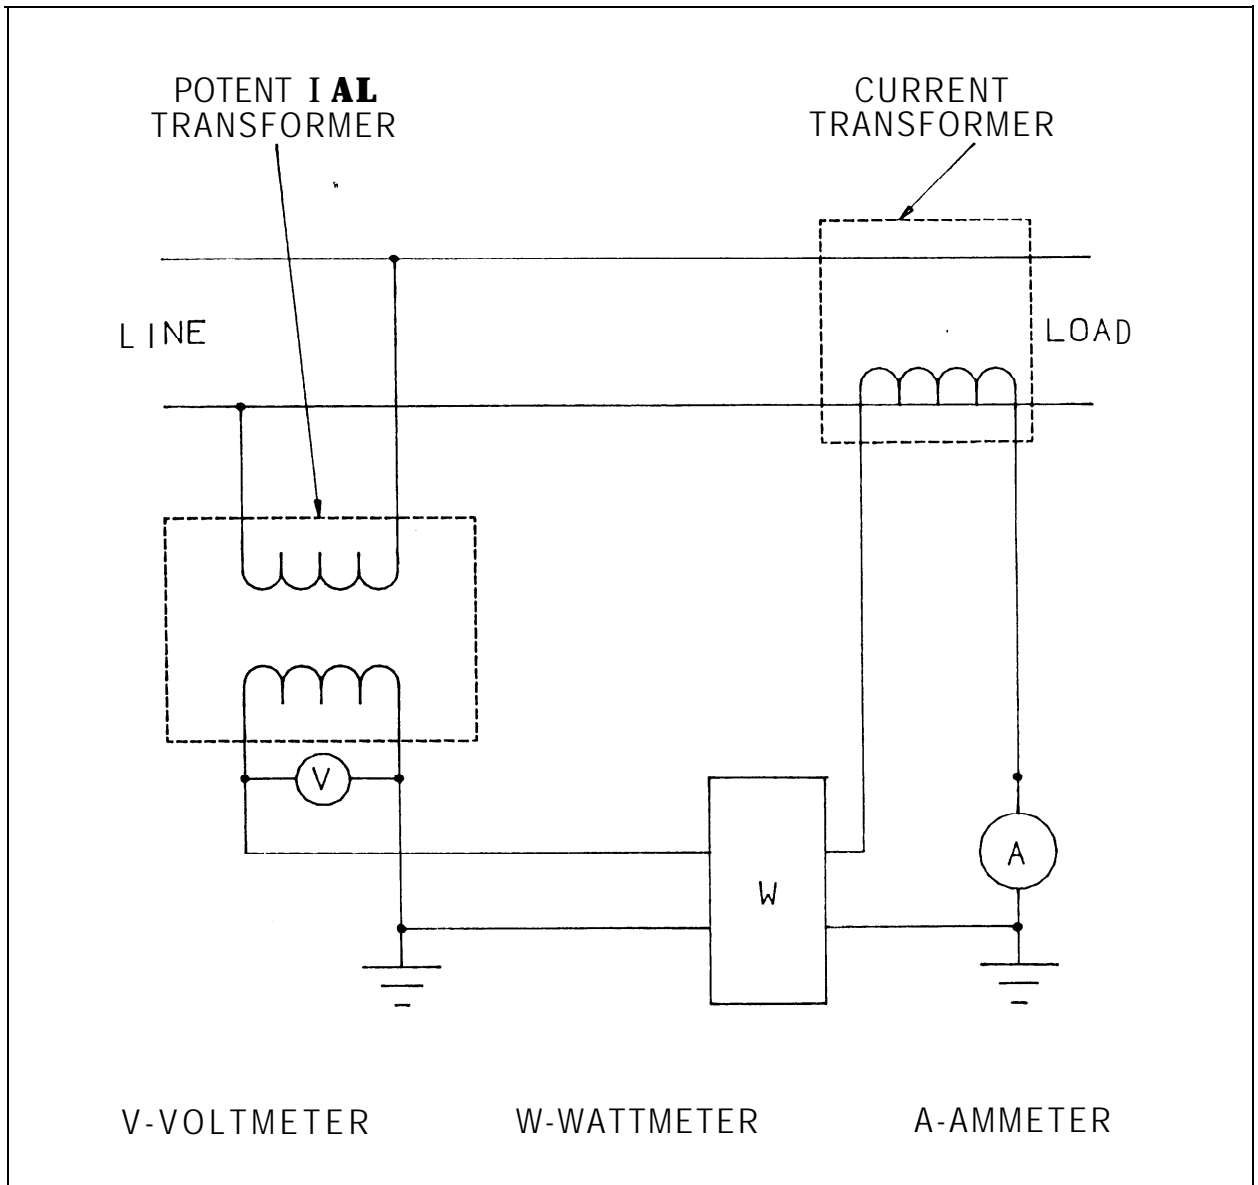

Figure 5-4. Instrument transformers, typical applications.
b. *Potential transformers.* A potential transformer (PT) is an accurately wound, low voltage loss instrument transformer having a fixed primary to secondary "step down" voltage ratio. The PT is mounted in the high voltage enclosure and only the low voltage leads from the secondary winding are brought out to the metering and control panel. The PT isolates the high voltage primary from the metering and control panel and from personnel. The step down ratio produces about 120 VAC across the secondary when rated voltage is applied to the primary. This permits the use of standard low voltage meters (120 VAC full scale) for all high voltage circuit metering and control.
(2) *Application.* The primary of potential transformers is connected either line-to-line or line-to-neutral, and the current that flows through this winding produces a flux in the core. Since the core links the primary and secondary windings, a voltage is induced in the secondary circuit (see fig 5-4). The ratio of primary to secondary voltage is in proportion to the number of turns in the primary and secondary windings. This proportion produces 120 volts at the secondary terminals when rated voltage is applied to the primary.
either a toroid (doughnut) winding with a primary conductor wire passing through the "hole", or a section of bus bar (primary) around which is wound the secondary. The bus bar CT is inserted into the bus being measured. The CT ratio is selected to result in a five ampere secondary current when primary rated current is flowing (see fig 5-4).